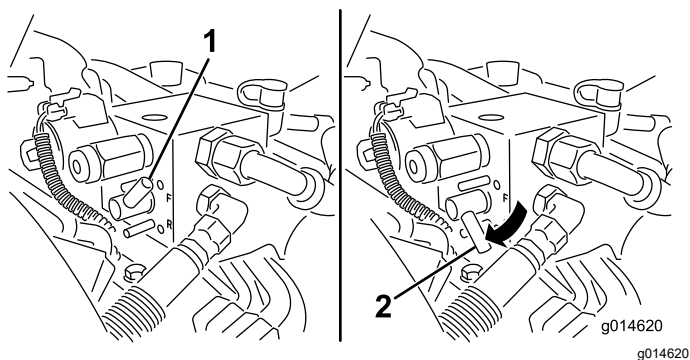

Figure 53
5. Rotate the backlap lever to the REVERSE (R) position (Figure 53).